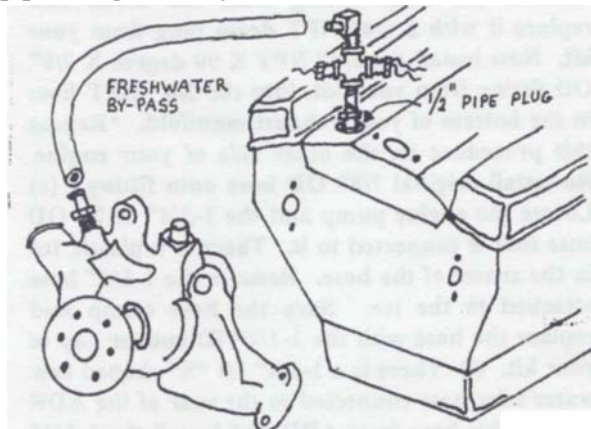

Figure 2
6. Remove the 1/2" pipe plug from the intake manifold. This is located slightly in front and to the left of the thermostat, next to left valve cover (Figure 2). We recommend using pipe thread sealant when installing threaded fittings. Install the brass pipe fittings from your kit into the intake manifold in this order: 3/8" NPT X 1/2" NPT bushing, 3/8" NPT close nipple, 3/8" NPT cross, 3/8" NPT X 5/8" OD 90 degree fitting on top hole of the cross. (Note: when tightening this assembly be sure to make room for both sending units on either side of the cross). Install sending units into side of the cross and connect their corresponding wires. Remove 1/2" NPT plug from engine circulating pump on left side just above large hose. Install the 1/2" NPT X 5/8" hose fitting in this hole. Plumb the 5/8" ID X 13" long hose and (2) #10 clamps between the pump and pipe fitting assembly on the intake manifold.